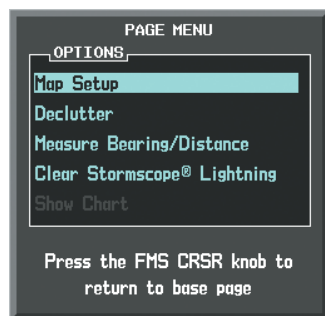

Figure 6-109 Navigation Map Page Menu
- 3) With 'Map Setup' highlighted, press the **ENT** Key (Figure 6-109).